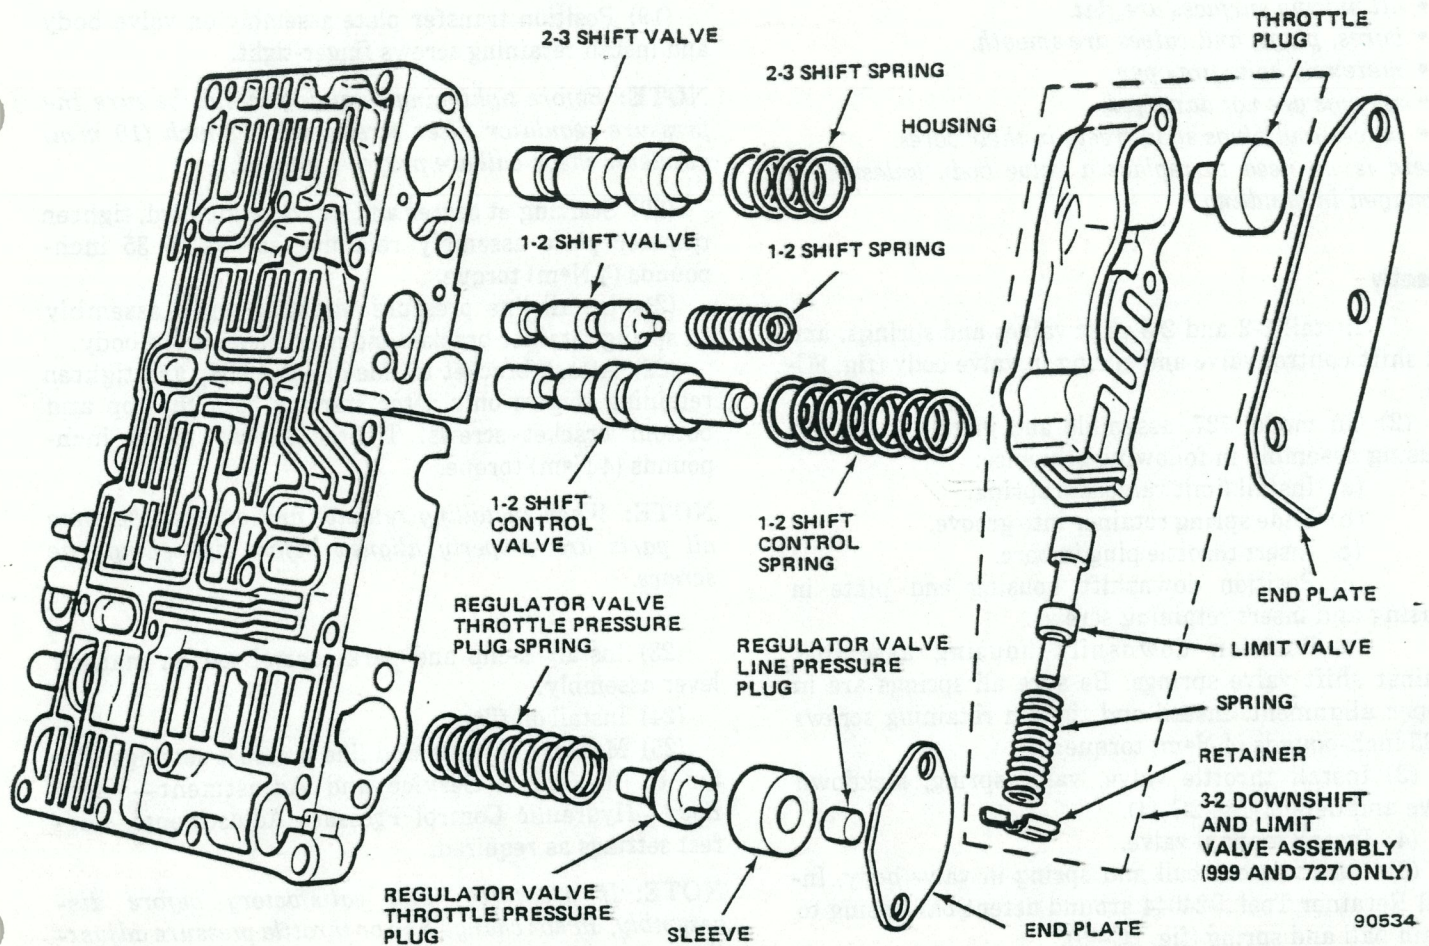

Fig. 2C-50 Shift Valves and Pressure Regulator Valves
(29) On model 727 only, remove downshift valve housing, remove throttle plug from downshift valve retainer, and remove spring, and limit valve from housing (fig. 2C-50). Tag spring for assembly reference.
(30) Remove 1-2 shift control valve and spring, 1-2 shift valve and spring, and 2-3 shift valve and spring. Tag all springs for assembly reference.